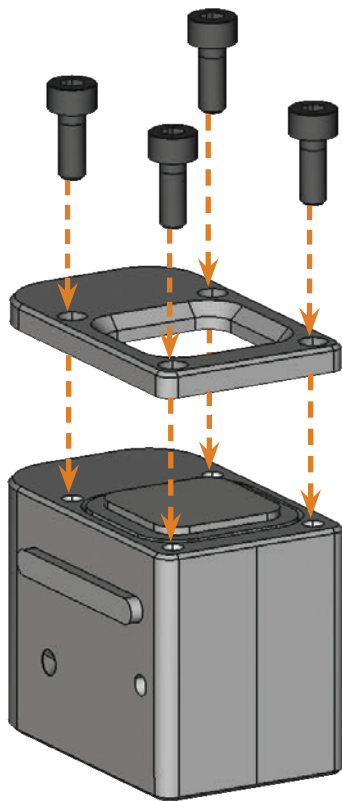

FIG. 47: ASSEMBLING A TOOL MAGAZINE
- M6. Put the cover back onto the tool magazine and fasten it with the screws that you unscrewed in step M3 (↻ Fig. 47).